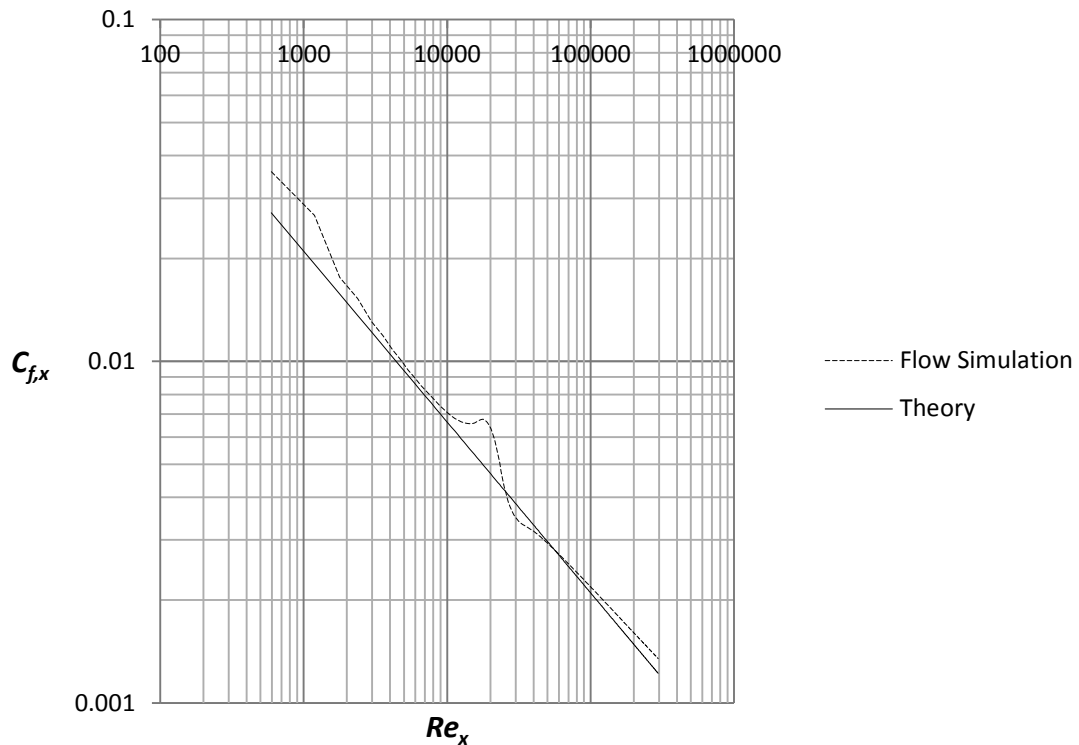

Figure 2.26 Local friction coefficient as a function of the Reynolds number
Place the file “**graph 2.26**” on the desktop. Repeat step 24 but this time choose the sketch  $x = 0 - 0.9 \text{ m}$ , uncheck the box for **Velocity (X)** and check the box for **Shear Stress**. Use the file “**graph 2.26**” to create Figure 2.26. Rename the xy-plot to **Local Friction Coefficient**. Figure 2.26 shows the local friction coefficient versus the Reynolds number compared with theoretical values for laminar boundary layer flow.
- 2.4 Import the file “Leading Edge of Flat Plate.” Study the air flow around the leading edge at 5 m/s free stream velocity and determine the laminar velocity boundary layer at different locations on the upper side of the leading edge and compare with the Blasius solution. Also, compare the local friction coefficient with figure 2.26. Use different values of the initial mesh to see how it affects the results.